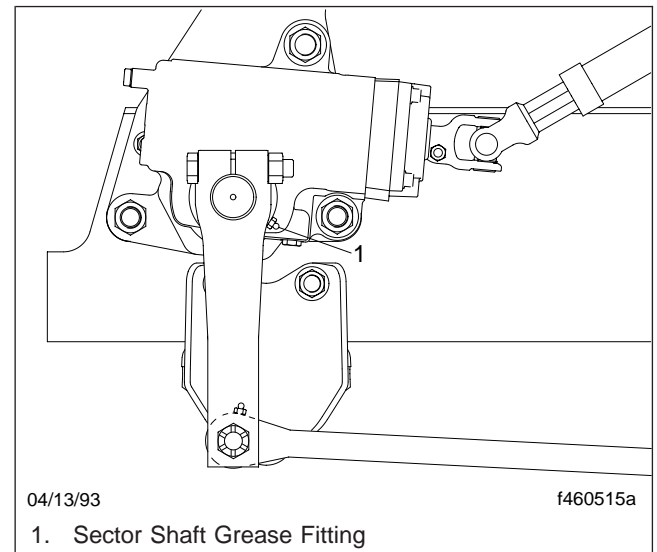

Fig. 4, Sector Shaft Lubricating, TAS Series
1. Wipe off debris from the grease fitting. See Fig. 4.